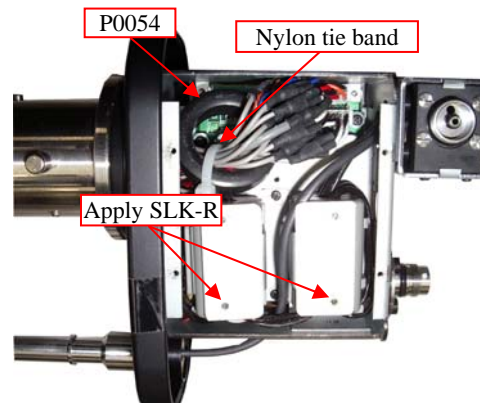

Fig.5-2-6
- 3) Attach Ring Core (P0054) to the Electrical Connector Assy (A-P0023). (Fig.5-2-6)
- 8) Fix P0054 to the Electrical Connector Assy by a Nylon tie band. (Fig.5-2-6)